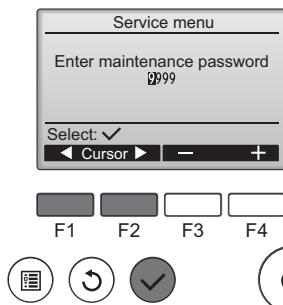

Fig. 6-2
- When the Service menu is selected, a window will appear asking for the password. (Fig. 6-2)